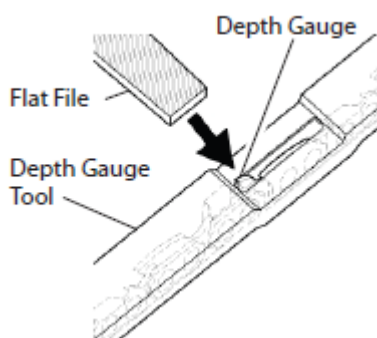

Fig.16
1. Place depth gauge tool (.025") firmly across top of two cutters. Make sure depth gauge enters slot in depth gauge tool (see Fig.16).